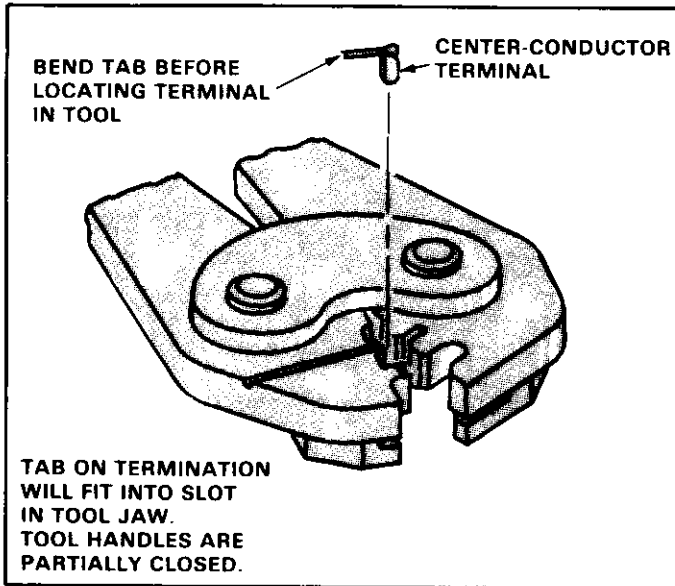

Fig. 6
3. Crimp center-conductor terminal according to instructions packaged with hand crimping tool. See Figure 6.